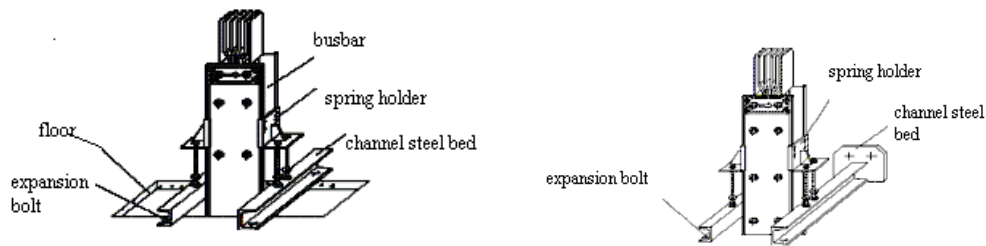

Fig 2.7
- B. Two types for side installation of spring hangers. Please refer to the Fig 2.7.